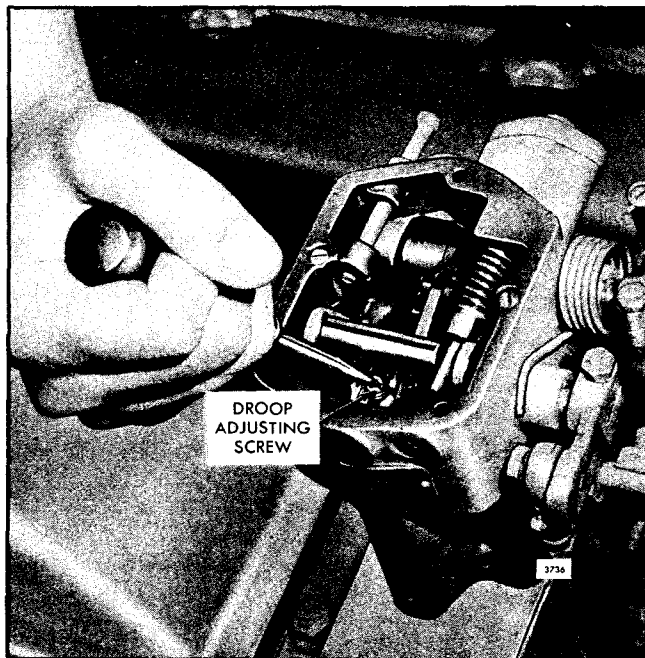

Fig. 8 - Adjusting Speed Droop
4. Loosen the droop adjusting screw. Move the droop bracket so that the screw is midway between the ends of the slot in the bracket. Tighten the screw (Fig. 8).